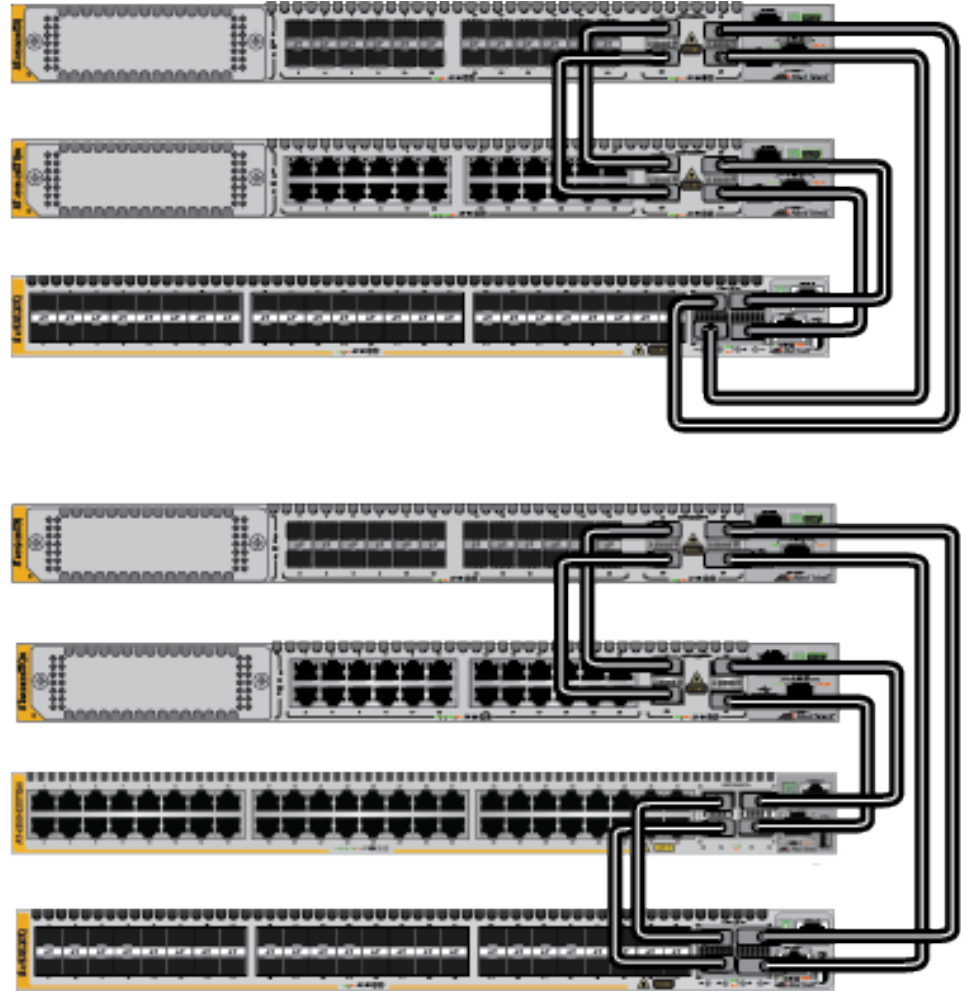

Figure 33. Stack Trunk Examples of Three or Four Switches with 40Gbps Links
- ❑ To build stacks of three or more switches, Allied Telesis recommends using all four ports. Examples are shown in Figure 33. Please note how the top and bottom switches are connected to form a loop in the trunk.